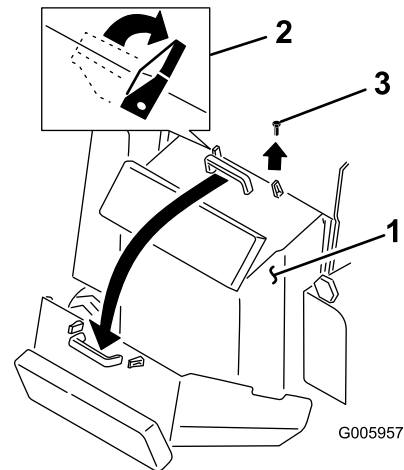

Figure 23
3. Release the 2 locking tabs on top of the rear-access cover (Figure 23).
4. Remove the bolt located next to the right locking tab (Figure 23).
5. Grasping the handle, pull the cover up and back to swing it open (Figure 23).